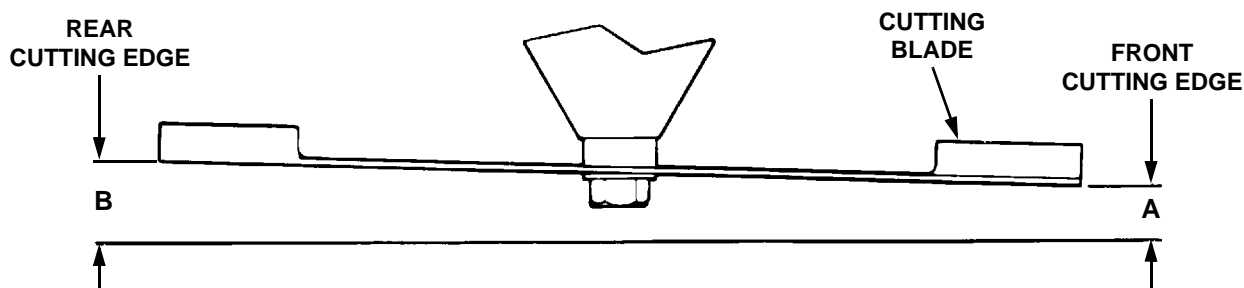

Figure 38
- Refer to Figure 38. Measure and record the distance from the front cutting edge to the ground (measurement A), and from the rear cutting edge to the ground (measurement B), for each of the blades. The front edge of each blade (measurement A) should be lower than its back edge (measurement B) by 1/8 to 1/4 inch.